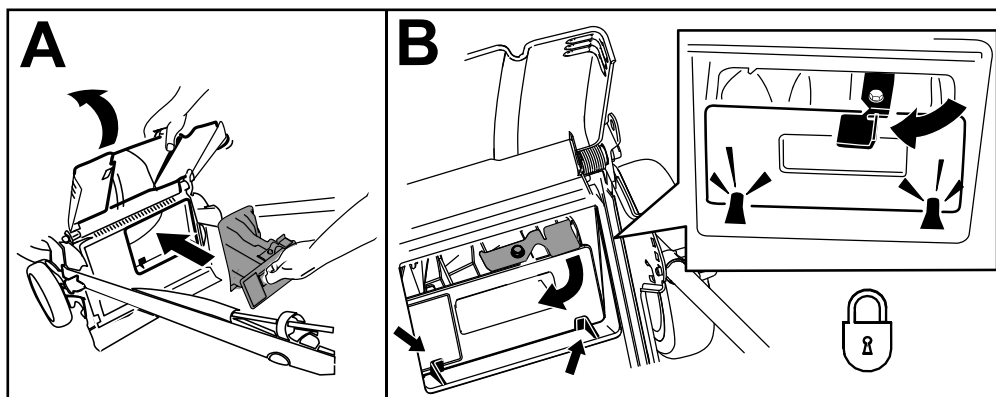

Figure 24
**Important:** Ensure that the rear plug is locked in place. To lock the plug, raise the rear deflector (Figure 24), firmly push the plug in until it snaps into place behind the tabs, and rotate the lever on the plug to the left (Figure 24).